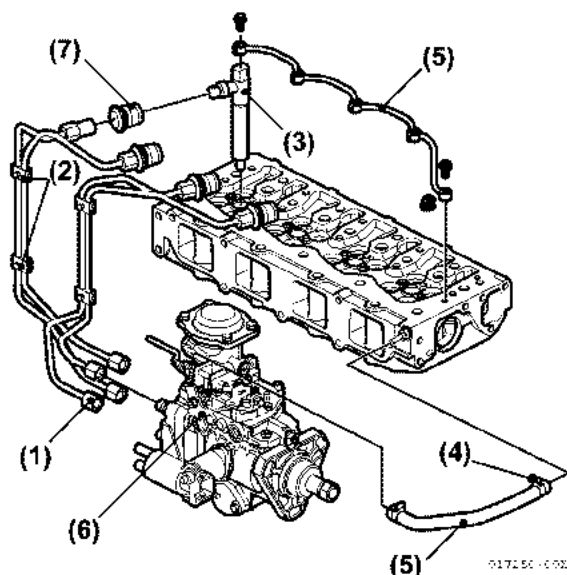

Figure 6-9
4. Remove return fuel line from fuel injection nozzle (Figure 6-9, (4)).
5. Remove the bolt retaining the fuel injection nozzle. Remove fuel injection nozzle (Figure 6-9, (3)). See *Remove the fuel injection line* (Figure 5-32) through (Figure 5-34): on page 5-32.